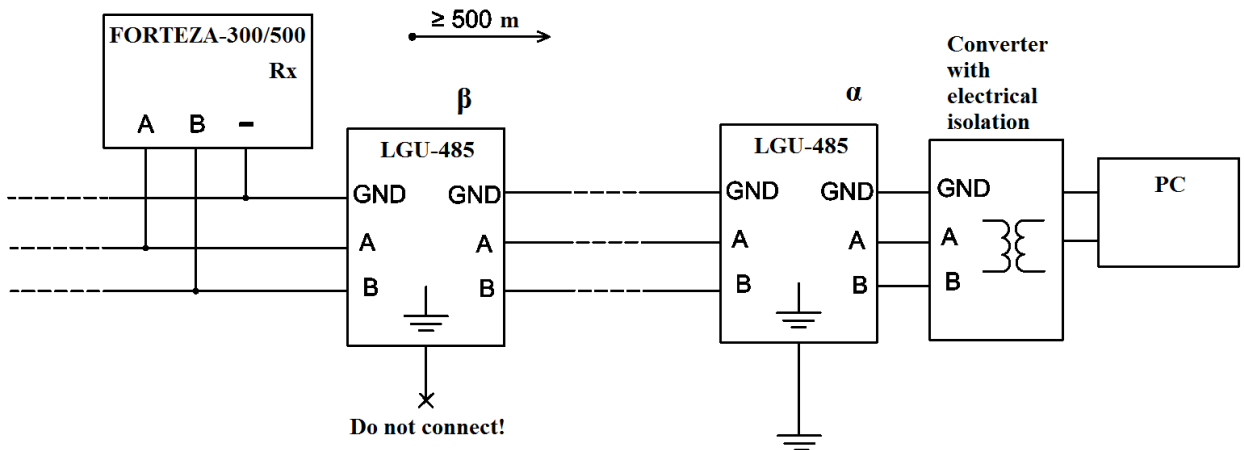

Figure 2.7
2.8.2. The example of protection of the line RS-485 against lightning is given in Figure 2.7. The lightning guard unit LGU1 is recommended in all the cases. You need the lightning guard unit LGU2 in case the piece of the interface line from the sensor up to the next device is more than 500 m. In case of shorter length of the communication line, the protection against lightning is made by the sensor integrated elements.